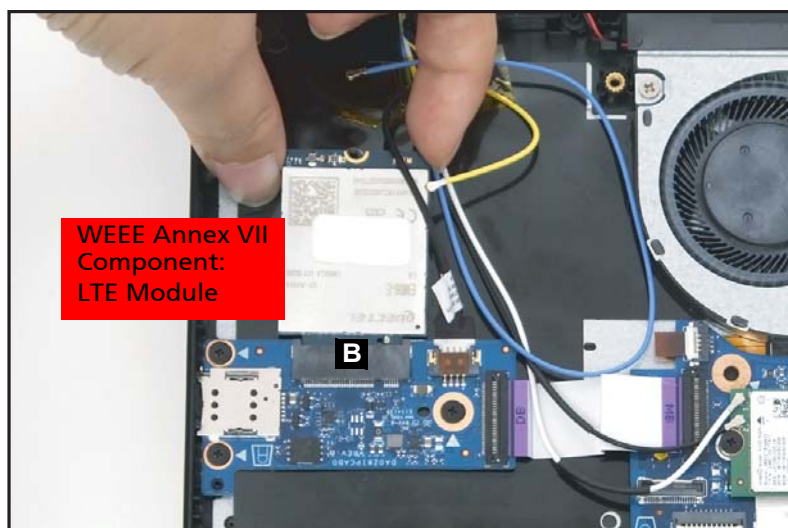

Figure 1-21. LTE Module Removal
5. Remove the LTE module from the mainboard connector (B) (Figure 1-21).